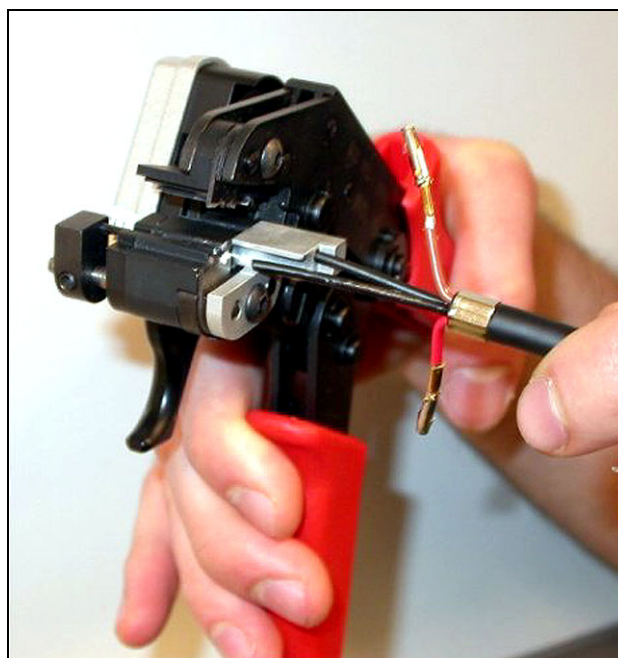
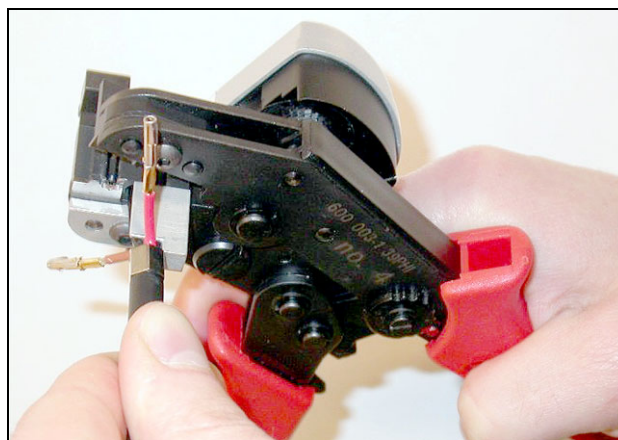

figure 29.16: Cutting a fiber (1)
figure 29.17: Cutting a fiber (2)
- 13 Slide the plastic optical fibers into the POF cutter/stripping tool (tool 6). The fiber that is going to be cut-off must be put in the small guiding hole, whereas the other fiber must be put in the large guiding hole (see figure 29.16). The crimping bush must rest against the stop (see figure 29.17).